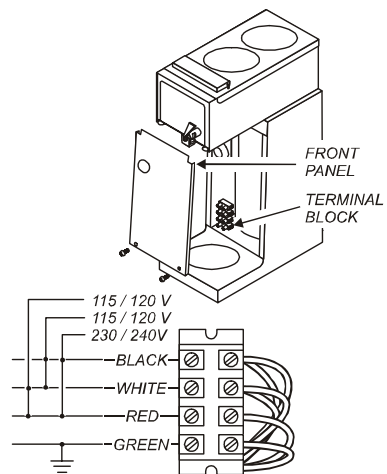

Fig. 3 115/240 Volt Terminal Block
**Models 9016** must be wired by an electrician, and require a 115/230V 20A circuit (50/60 Hz, 2 hot legs / 1 neutral leg, plus ground). Remove front panel to gain access to terminal block. Green terminal must be connected to a suitable building ground. Circuit must be capable of 3800 Watts. See figure 3 at right.